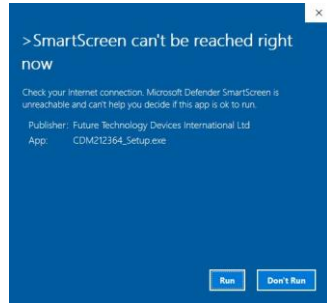

Figure 4-3: Prompt Message
Step 3: A prompt message shown in **Figure 4-3** appears. Click **Run** to continue the installation process.